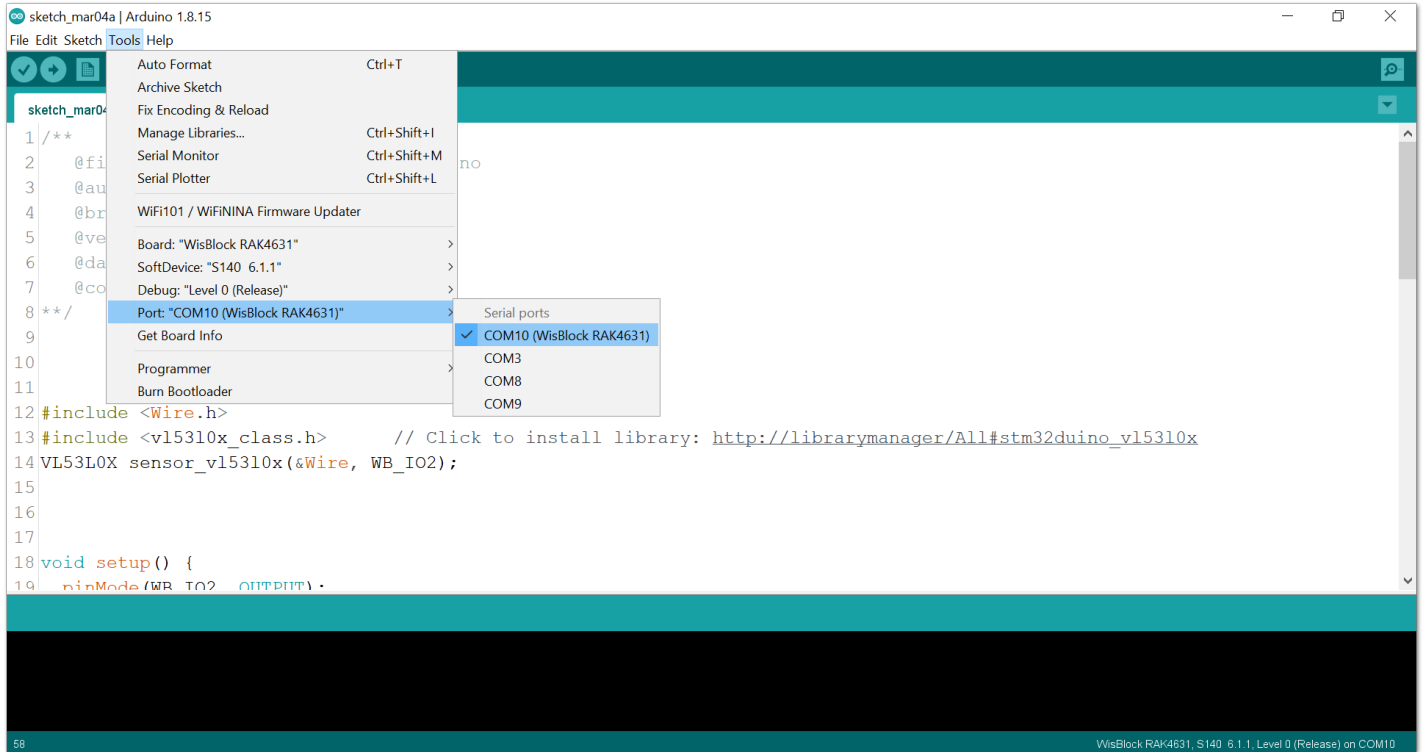
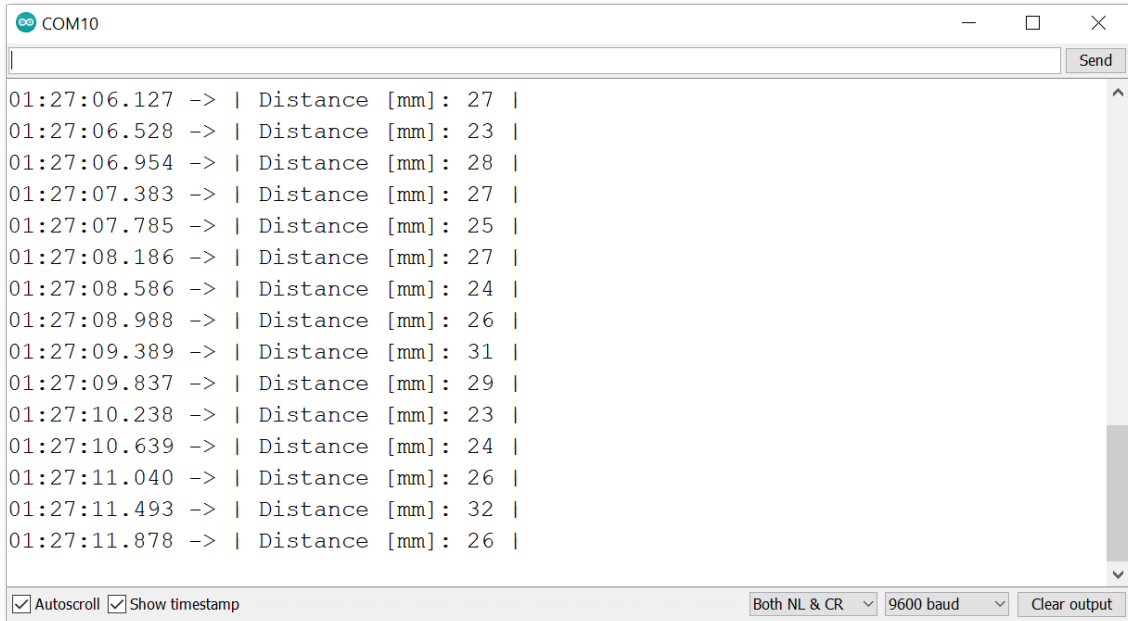

Figure 11: Selecting the correct serial port
Figure 12: Uploading the sample code
4. Select the right serial port and upload the code, as shown in **Figure 11** and **Figure 12**.